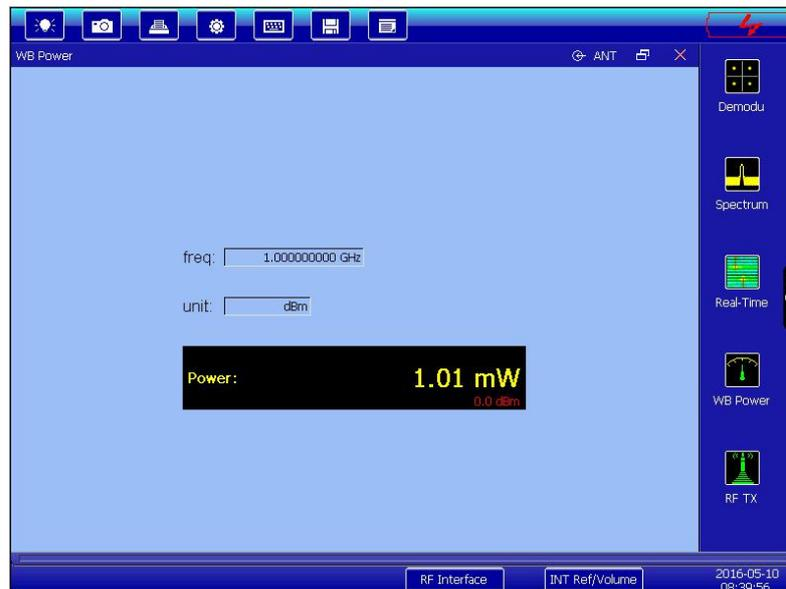

Fig. 4-8 Power measuring result
- 4) Click **[freq]** and **[unit]** for relevant setting on the lower part of the screen as per the input signal. After that, the power value of the signal under test can be seen, as shown in Fig. 4-8.